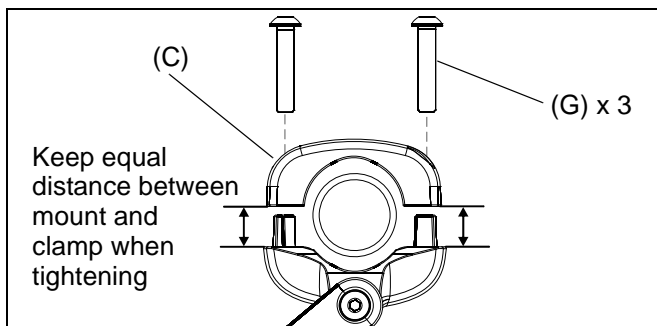

Figure 2
NOTE: Equally tighten screws (G) against pole and the pole clamp (C). (See Figure 2)
4. Position mount at desired height and orientation. Tighten screws (G) securely. (See Figure 2)